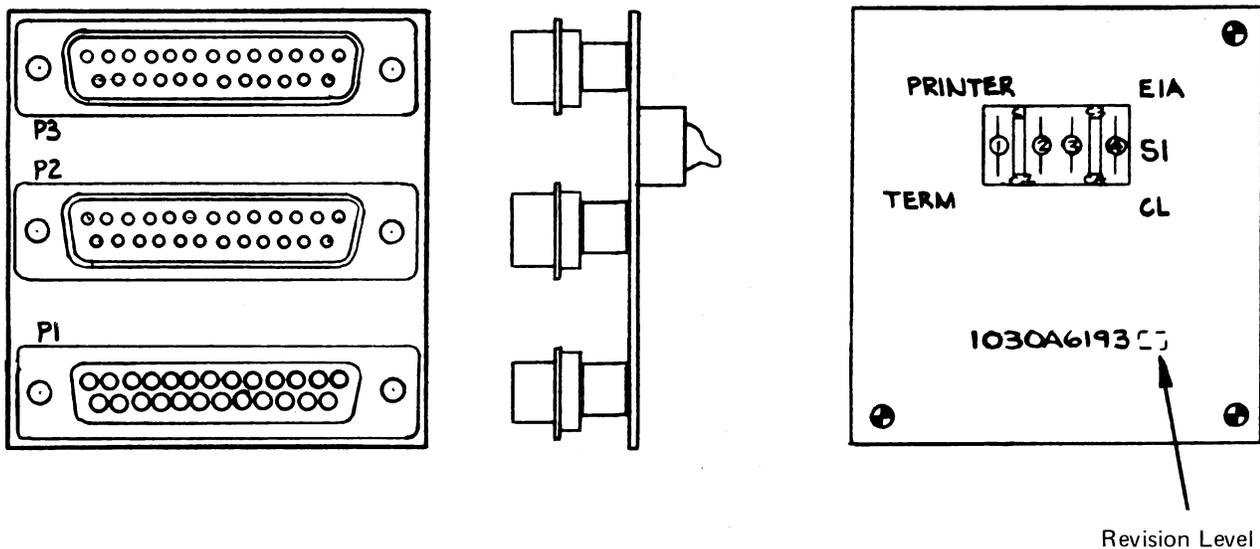

Fig. 1—Diagnostic Test Plug
3.01 The User Diagnostic Kit (SYKES part number 1030A5191) consists of a special Diagnostic diskette and a 3-port EIA connector plug (Fig. 1). The test procedure is automatically loaded from the diskette into the unit's memory when the test is performed.